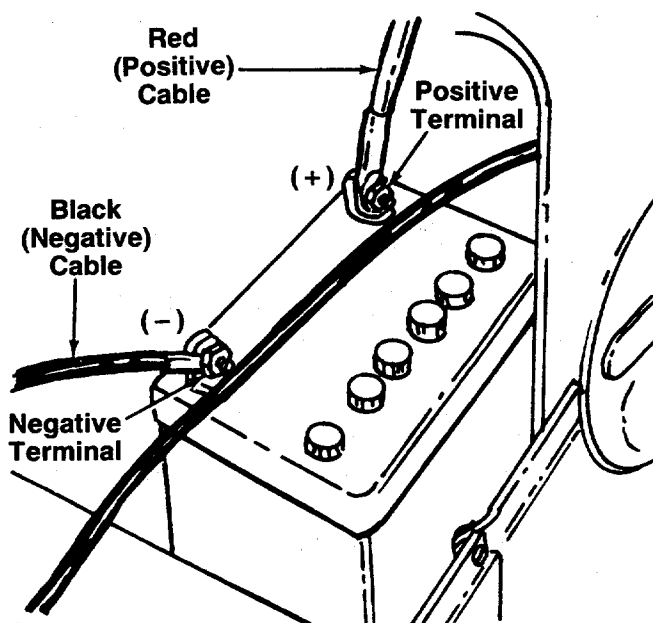

FIGURE 6.
3. Attach the positive cable (heavy red wire) to the positive battery terminal (+) with hex bolt and hex nut provided with battery. See figure 6.